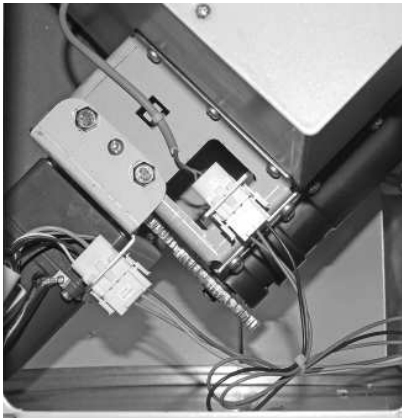

Fig. 52 Connect the plug for the auger motor and the proximity switch
- ▶ Connect the plug for the auger motor and the proximity switch – Fig. 52.